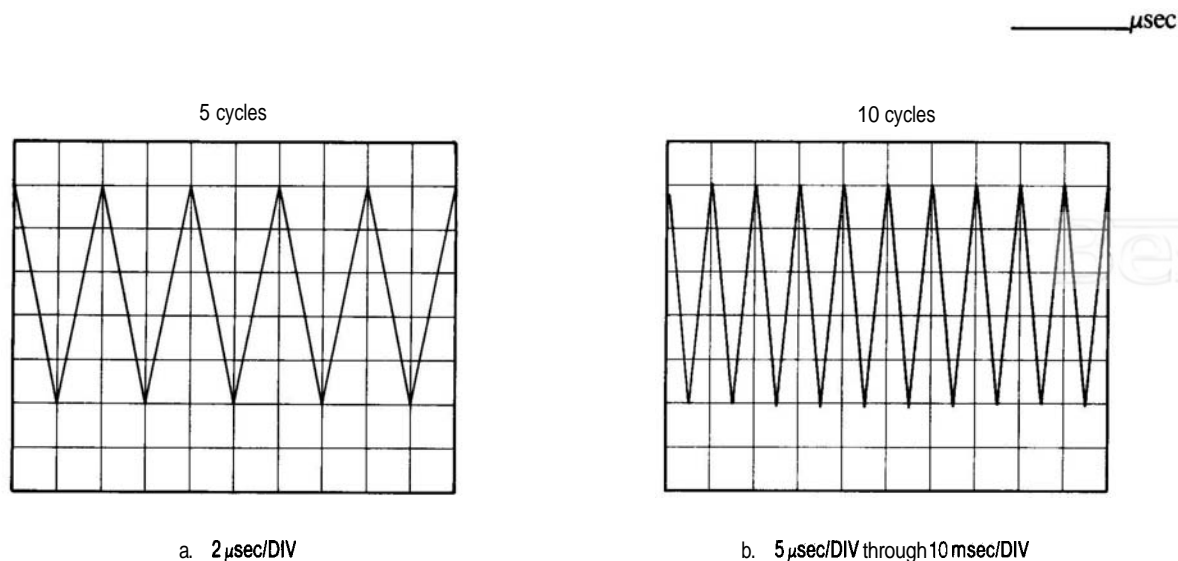

FIGURE 4-20. SWEEP TIME ACCURACY
1. Connect spectrum analyzer CAL OUTPUT to frequency counter's 10 Hz – 500 MHz (**50Ω**) input as shown in Figure 4-20. Measured output frequency should be  $35 \text{ MHz} \pm 400 \text{ kHz}$ .